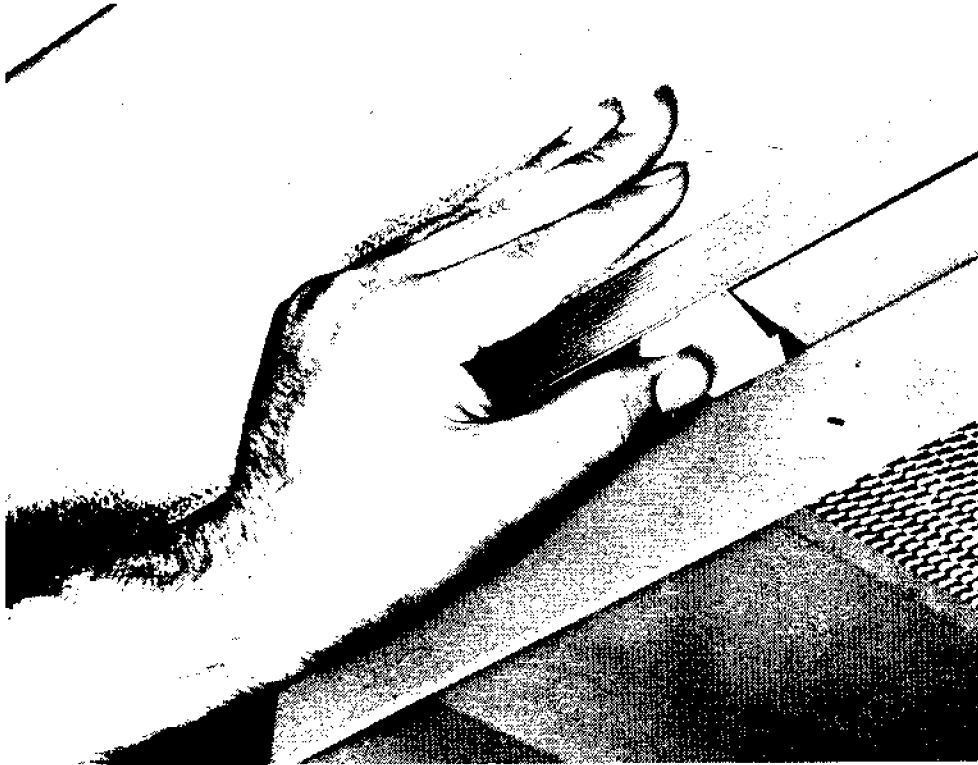

FIGURE 1-D
2. Roof lockers are equipped with hidden catches, and continuous hinges on the doors. To open the locker, squeeze the latch; to close, just shut the door firmly—the latch will engage by itself. (See Figure 1-D).